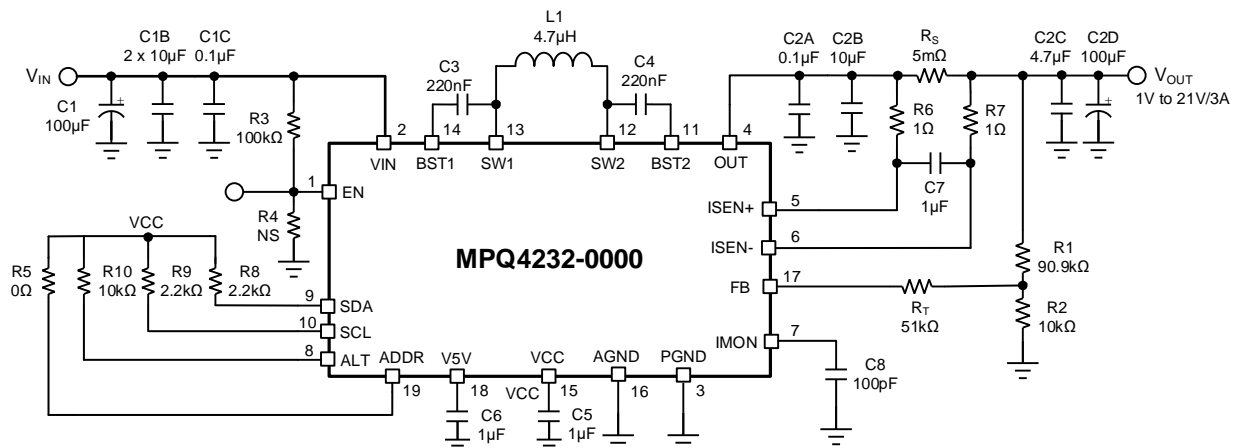

Figure 14: Typical Application Circuit ($V_{IN} = 9V$ to $16V$, $V_{OUT} = 5V$, $1V$ to $21V/3A$ adjustable via the I²C, I2C_EN on by default)
12) The recommended layout is based on Figure 14 on page 38.